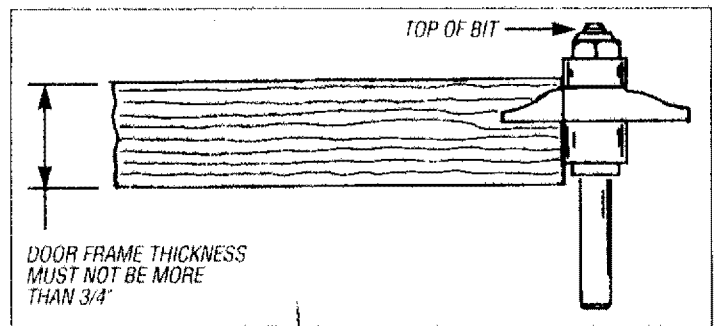

FIGURE 20
**NOTE:** If you have purchased RAIL AND STILE CUTTERS (Craftsman® 21257 or 21259) for making cabinet door frames on your router table, MAKE SURE THAT FRAME THICKNESS is not more than  $\frac{3}{4}$ ". If frame thickness is more than  $\frac{3}{4}$ ", the top of the bit, as shown in Fig. 20, will interfere with retractable guard on your unitized fence. See Fig. #20 and Fig. #16.